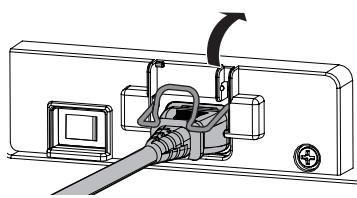

Fig.1
- 2) Raise the power cord holder fixing the power cord upward. (Fig. 1)